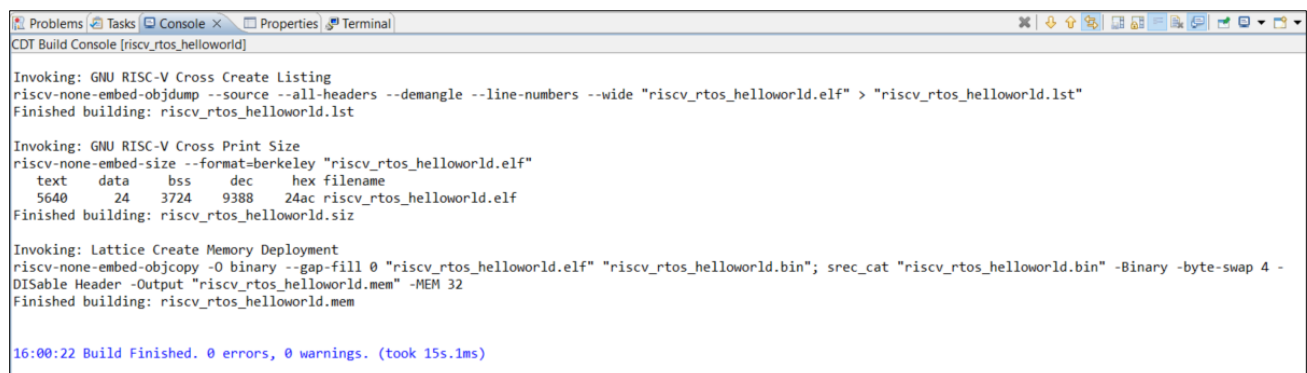

Figure 7.22. Hello World Project Build Console Output
8. The console output is displayed as shown in Figure 7.22.